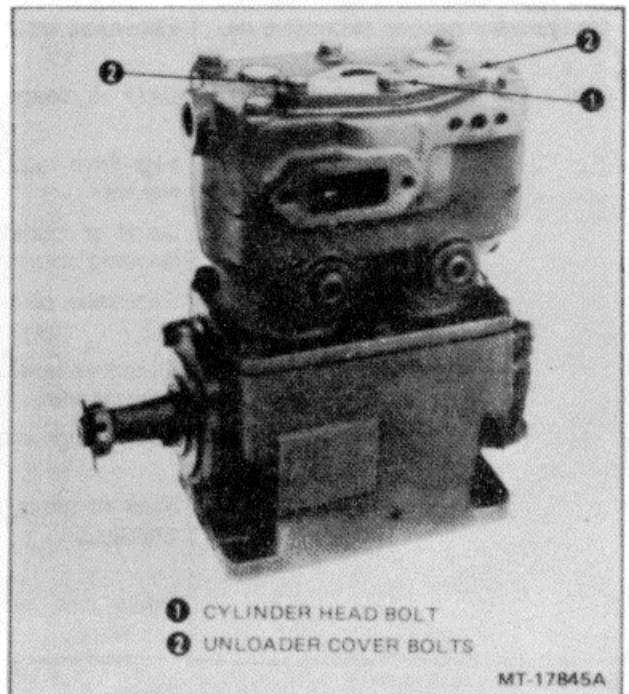

Figure 3 - Unloader Cover Removal
2. Remove two hex head unloader cover bolts and cylinder head bolt located in center of unloader cover (Figure 3).